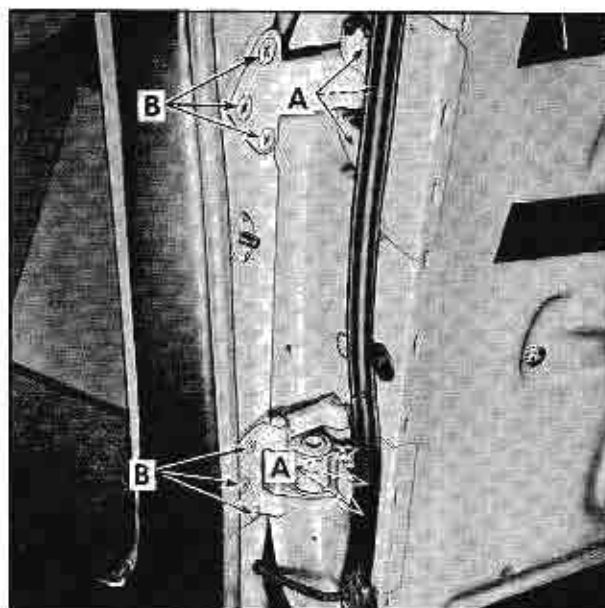

Fig. 3-21 Rear Door Hinge Attaching Bolts
4. Loosen door hinge pillar to door attaching bolts, Fig. 3-21, and shift door vertically as required.
5. Remove either upper or lower hinge to center pillar bolts, Fig. 3-21. It is easier to adjust one hinge at a time.